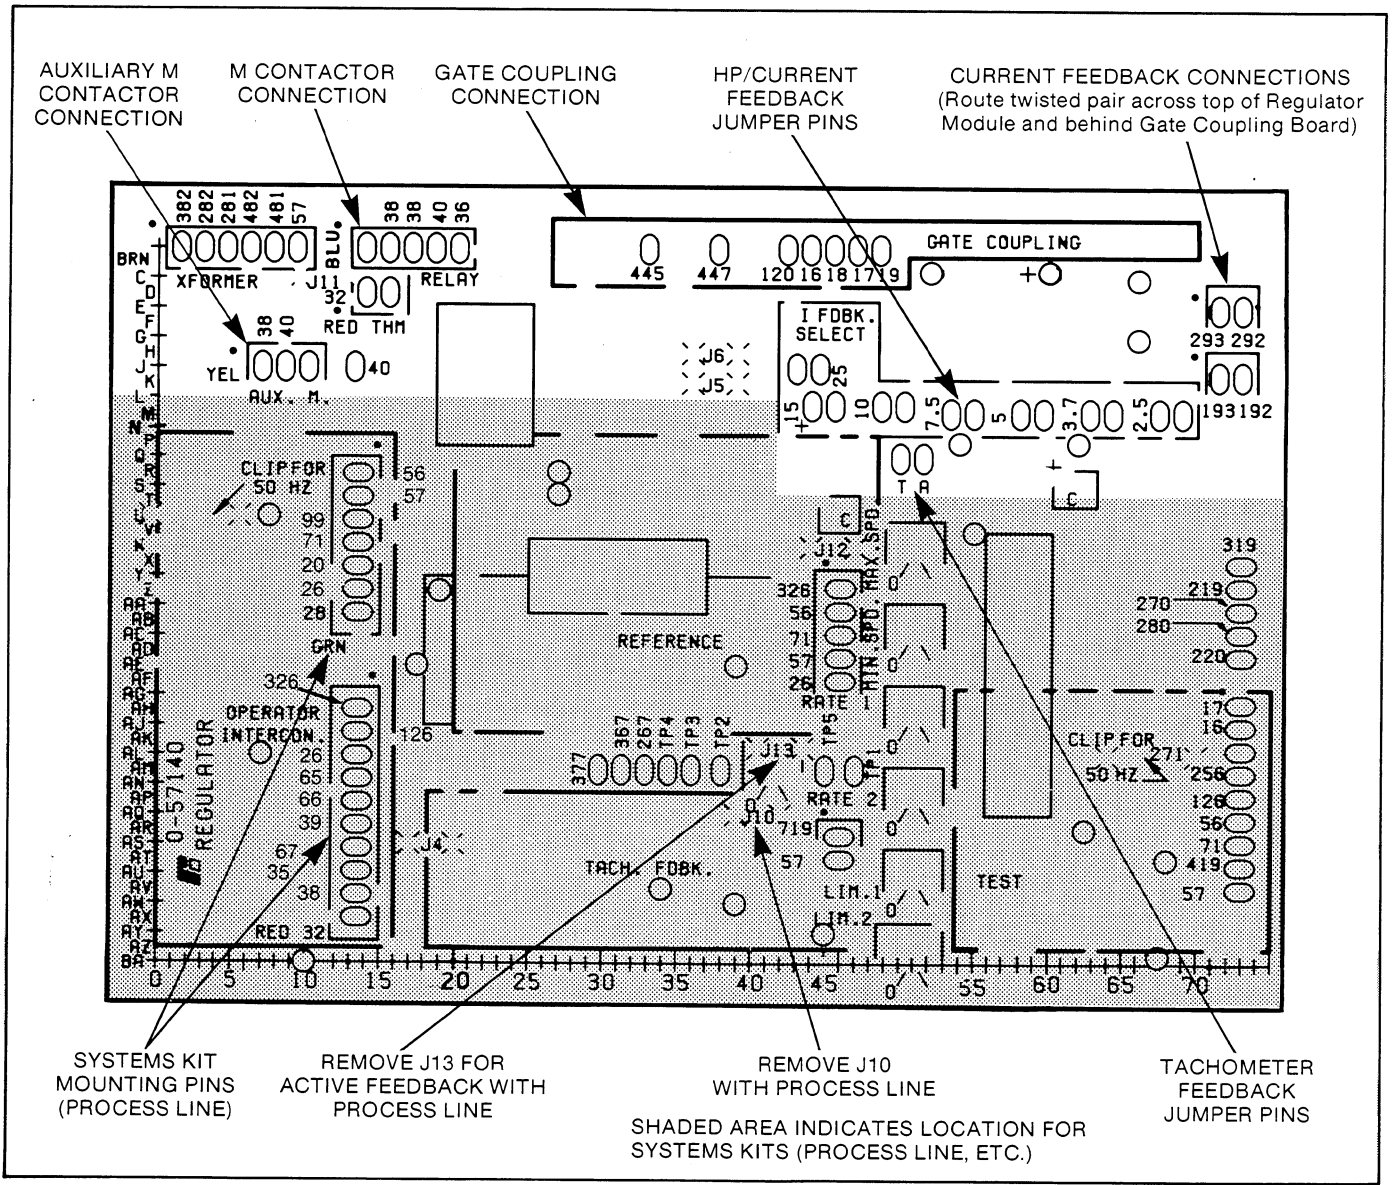

Figure 6.3. Regulator Module screen.
Step 2 — Refer to Figure 6.3 and note that the shaded area on the Regulator Module is where the Process Line Module is to be mounted. Orient the Process Line Module over this area so the pin guides on the Module are aligned over the two sets of pins labeled GRN 28 and RED 32. **Check that the IC with the power tab is in an upright position and that all pins are aligned.**
Step 2 — Connect the three-wire harness to the Regulator Module. Locate the letters AUX. M printed on the Module near a three-pin connector. (Refer to Figure 6.3.) The connector fits on the bayonet pins. Note that the yellow (39) wire **must** connect with the pin marked YEL 38 on the Regulator Module.
- Figure 6.3 which is a copy of the screen used to mark the Regulator Module. It is useful in identifying locations on the board. Note that the shaded area indicates the systems kit location.